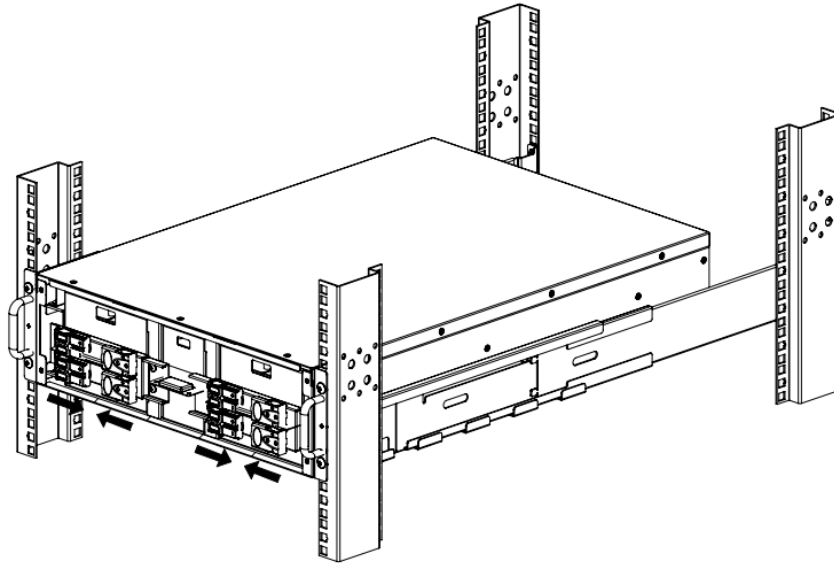

Figure 37: Reconnect EBP Battery Cartridge Connectors
29. Reconnect the Battery Cartridge connectors (see Figure 37). Press each connector tightly together to ensure a proper connection.